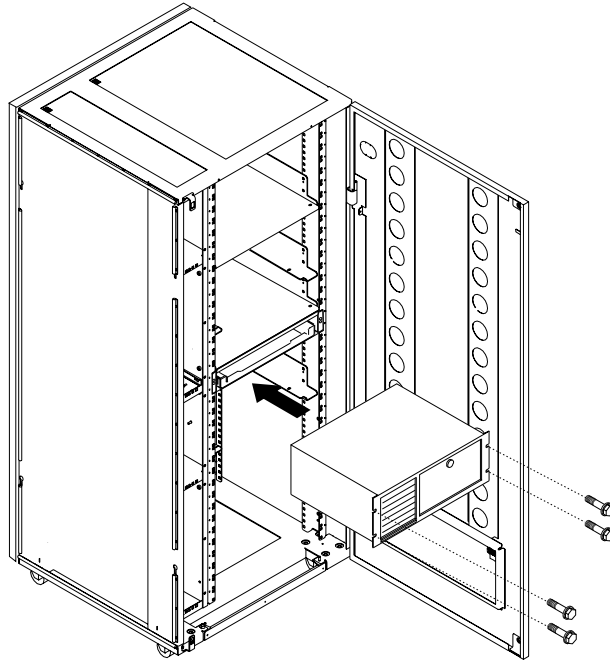

Figure 1-5. Installing the 7585 NNP-A Unit in the Controller Expansion (Front Side)
1. \_\_\_\_ Slide the network node processor unit in the controller expansion from the front side as shown in Figure 1-5., then fasten the unit using four screws (PN 1621230).